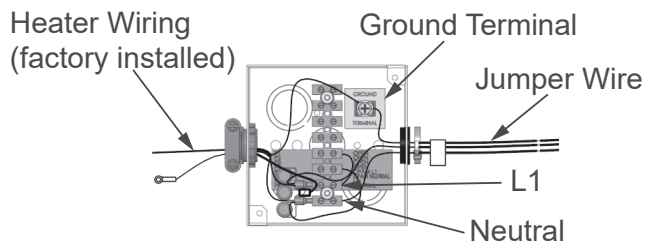

Figure 69. Power Supply Connections
The 120 VAC hot wire from the power supply must connect to the black jumper wire or the “L1” terminal block location in the junction box and the 120 VAC neutral wire must connect to the white jumper wire or the “Neutral” terminal block location in the junction box for correct polarity. See **Figure 69**.
4. Connect the 120 VAC hot wire from the power supply to the black jumper wire or the terminal block location marked “L1” inside of the junction box located on top of the water heater. If the black jumper wire is used, make the connection inside of the junction box with a properly sized wire nut and wrap electrical tape around the wire nut and wire end. See junction box **Figure 69** and the wiring diagram **Figure 84** (page 99), **Figure 85** (page 100), or **Figure 86** (page 101).
5. Connect the 120VAC neutral wire from the power supply to the white jumper wire or the terminal block location marked “Neutral” inside of the junction box located on top of the water heater. If the white jumper wire is used, make the connection inside of the junction box with a properly sized wire nut and wrap electrical tape around the wire nut and wire end. See **Figure 69** and wiring diagram **Figure 84** (page 99), **Figure 85** (page 100), or **Figure 86** (page 101)..
6. Connect the ground wire from the power supply to the green jumper wire or the ground terminal location inside of the junction box located on top of the water heater. If the green jumper wire is used, make the connection inside of the junction box with a properly sized wire nut and wrap electrical tape around the wire nut and wire end. See **Figure 69** and wiring diagram **Figure 84** (page 99), **Figure 85** (page 100), or **Figure 86** (page 101)..